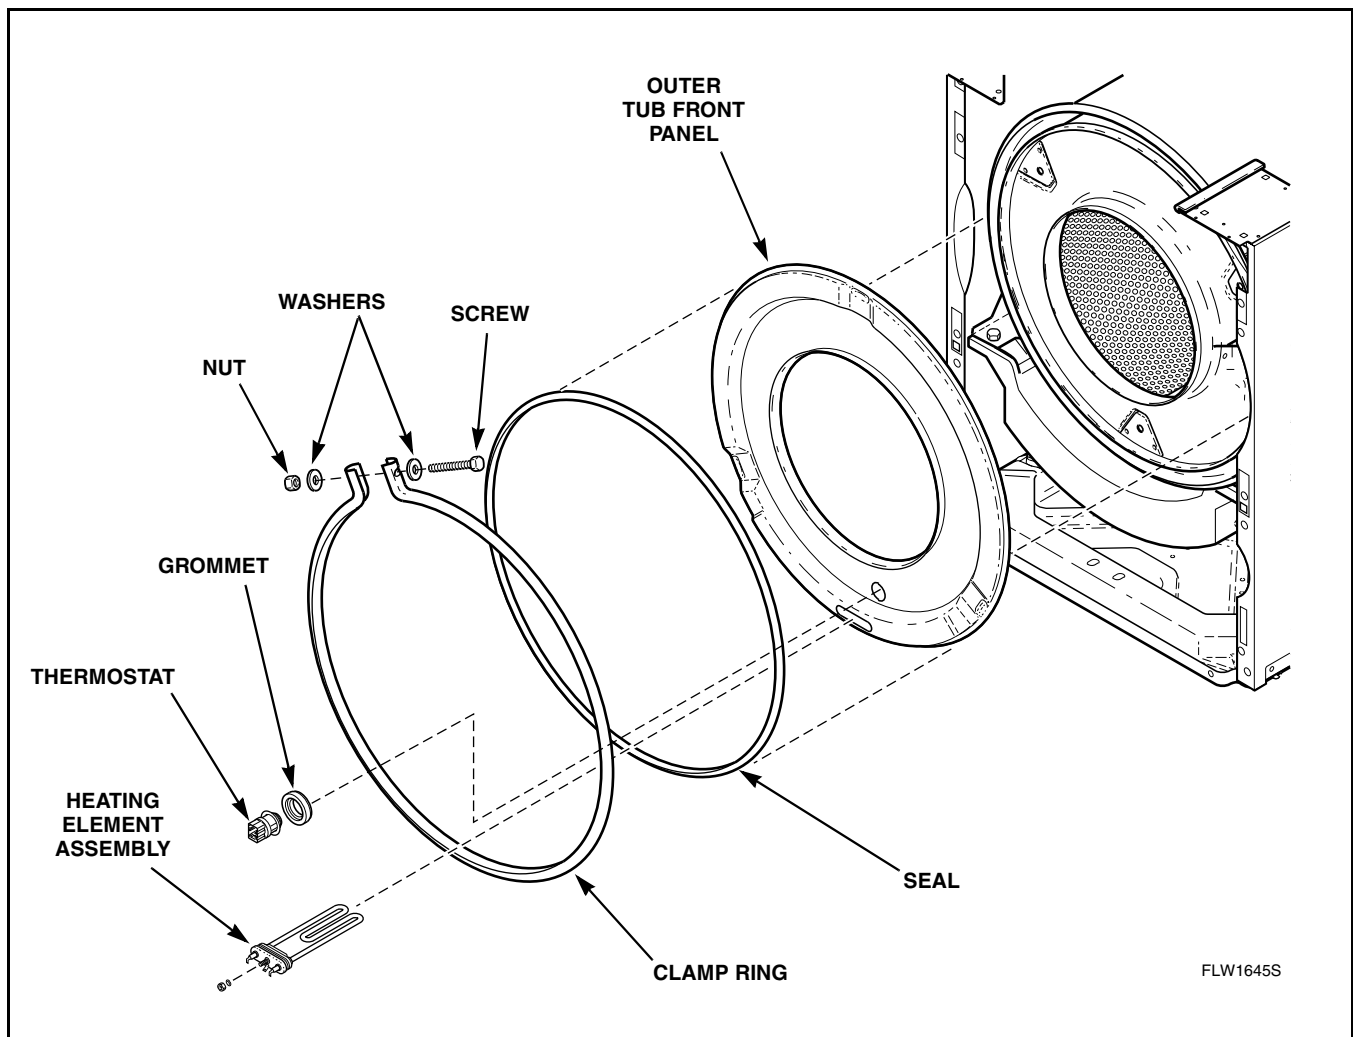

Figure 20
- Grasp heating element assembly by the terminals. Pull assembly and rubber washer through opening in outer tub front panel. Refer to *Figure 20*.